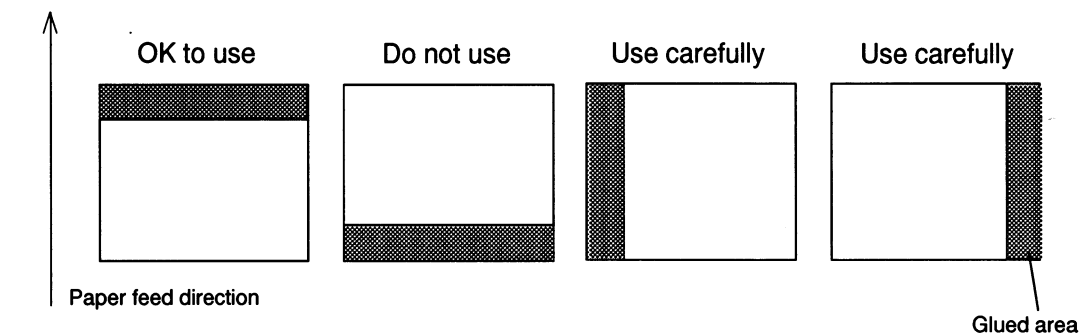

Figure 1.8.1 Slip Paper Glued Area
① Paper type: Normal paper
② Total thickness: 0.09 to 0.2 mm (.0035 to .0079")
③ Size: 68 to 102 mm × 152 to 210 mm (2.68 to 4.02" × 2.98 to 8.27")
④ Weight: 70 to 90 kg paper
- There must be no glue on the bottom edge of slip paper. It is desirable for the glue to be on the top edge. Choose slip paper carefully when the glue is on the right or left edge, since paper feeding and insertion are affected by gluing conditions (e.g., glue quality, method, and length) and glue location (refer to Figure 1.8.1). Be especially careful when slip paper is wide and has the glue on the right or left edge, since skew may occur.